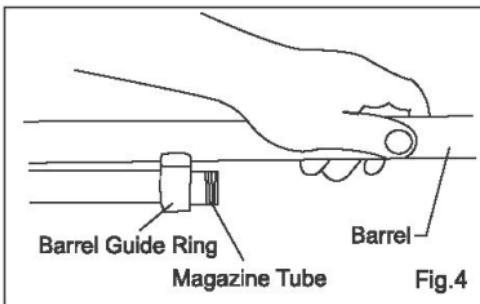

Fig.4
3. Hold the barrel ahead of the barrel guide ring (See fig. 4) rearward.